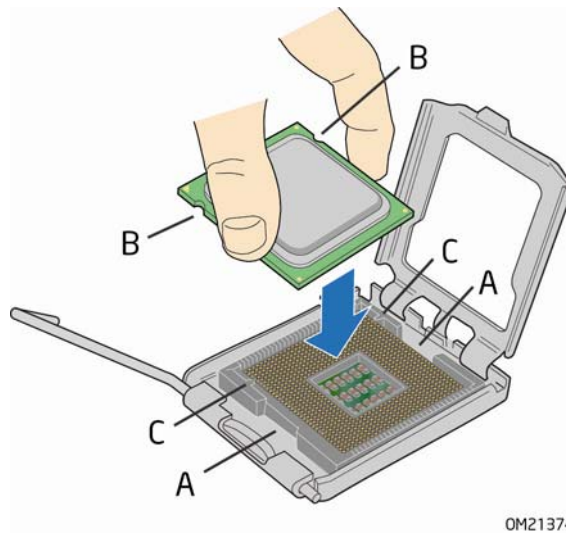

Figure 10. Install the Processor
6. Hold the processor with your thumb and index fingers oriented as shown in Figure 10. Make sure your fingers align to the socket cutouts (Figure 10, A). Align notches (Figure 10, B) with the socket (Figure 10, C). Lower the processor straight down without tilting or sliding it in the socket.